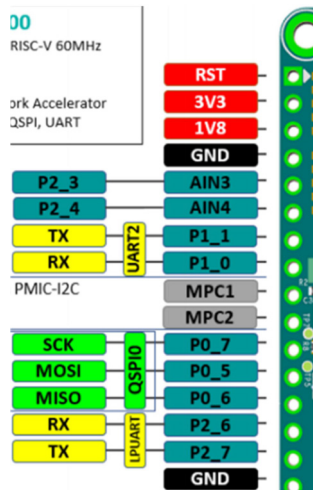

Figure 6.4 MAX78000FTHR board UART serial ports
UART2 is at pins 7 (TX) and 8 (RX), and LPUART at pins 15 (TX) and 14 (RX) on the MAX78000FTHR development board (see Figure 6.4).